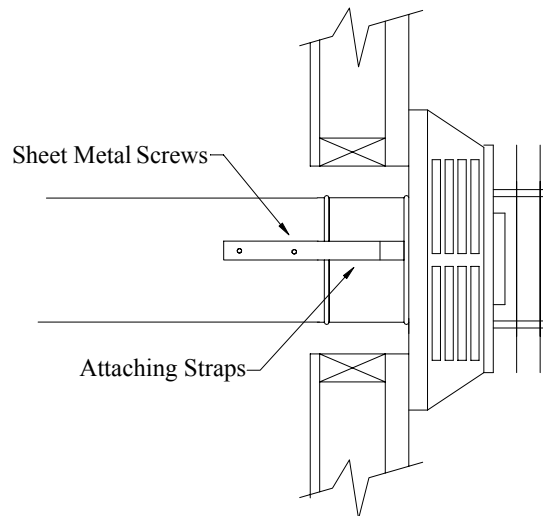

Fig. 17– Attaching the Termination
5. Slide the appliance and vent assembly towards the wall, carefully inserting the vent pipe into the vent cap assembly. The vent pipe must extend into the vent cap, resulting in minimum pipe overlap of 1-1/4 inches. Secure the connection between the vent pipe and the vent cap by attaching the two sheet metal strips that extend from the vent cap assembly into the outer wall of the vent pipe. Use two sheet metal screws to connect the strips to the pipe section (see figure 17).